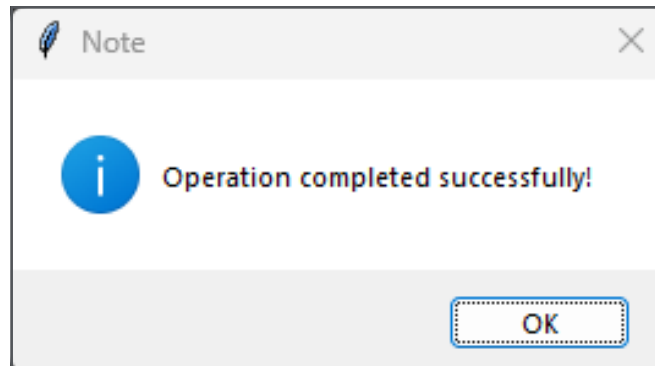

Figure 42: S2 Warning Successfully Cleared
3. After about 15 seconds, a screen similar to *Figure 42* below is displayed. Click OK and then reboot the AT620 to confirm that the S2 error has been cleared.